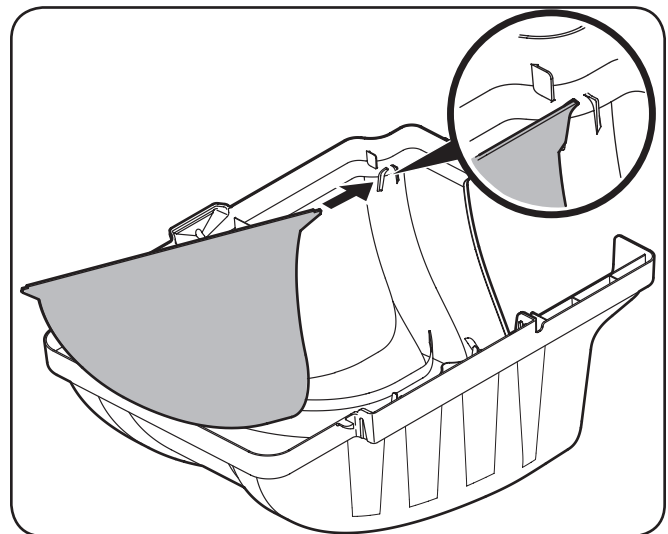
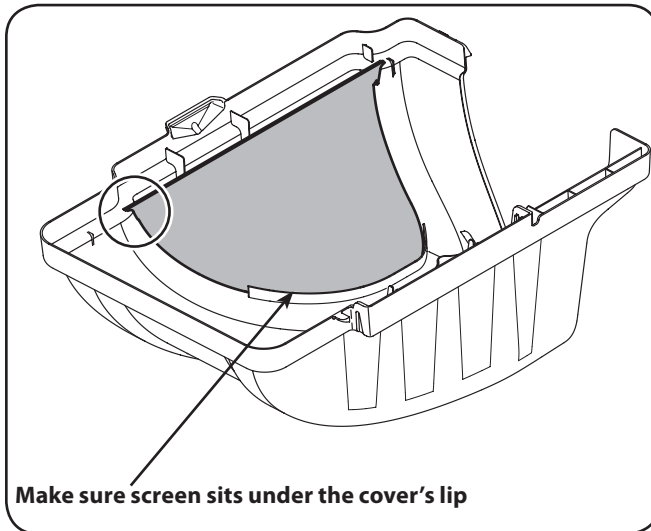

Figure 4-7
Figure 4-8
- If not already installed by the factory,** install the bagger screen into the bagger cover by first inserting one end into the corresponding cutout mounting hole, as in Figure 4-7. Make sure to feed the screen under the lip, as in Figure 4-8.
4. Clip in the other side of the screen by flexing the screen and pushing it down into the other corresponding cutout hole. See Figure 4-8.